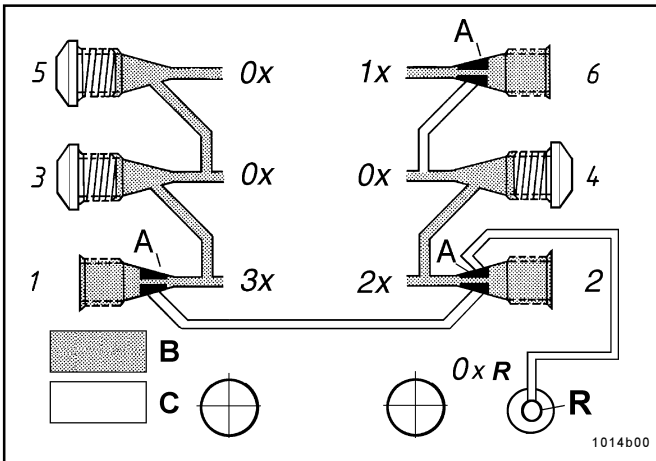

Fig. 1 - Single, double and triple lubricant output;SSV mounted on the back
- Lubricant from a plugged outlet is redirected to the next outlet on the same side of the SSV divider block in descending numerical order (see Fig. 1).
- For instance, plugging outlets 5 and 3 will triple the amount of lubricant to outlet 1. The connecting channel to outlet 2 is closed by means of the check valve's clamping ring (A).
\* Install a closure plug in each outlet borehole which is not required, see Fig. 1 or 4.
**Important:** If **outlet 2** is connected to a **lube point**, **outlet 1 must not be closed**, see Fig. 1.